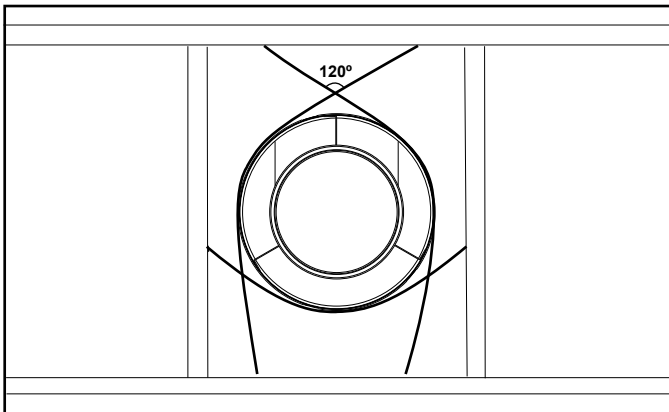

Figure 7.8 Securing Vertical Pipe Sections
- Vent supports or plumbers strap (spaced 120° apart) may be used to support vent sections. See Figures 7.8 and 7.9.
Note: Figures 7.8 and 7.9 are to be used for reference only. Method of strap installation could vary by configuration of vent system.